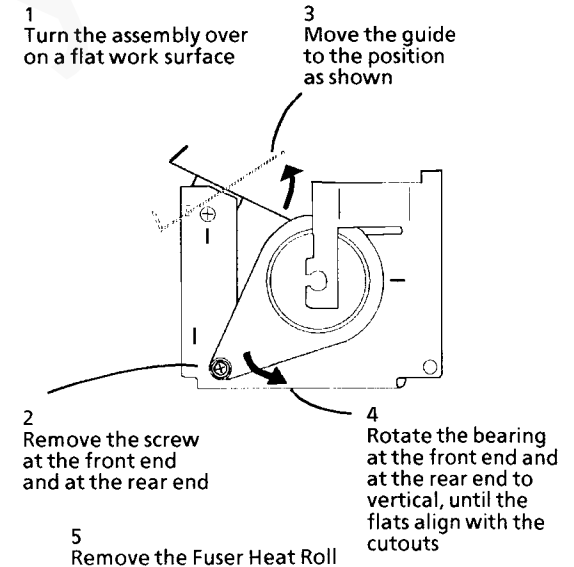

Figure 1. Removing the Fuser Heat Roll
4. Remove the Fuser Heat Roll (Figure 1).